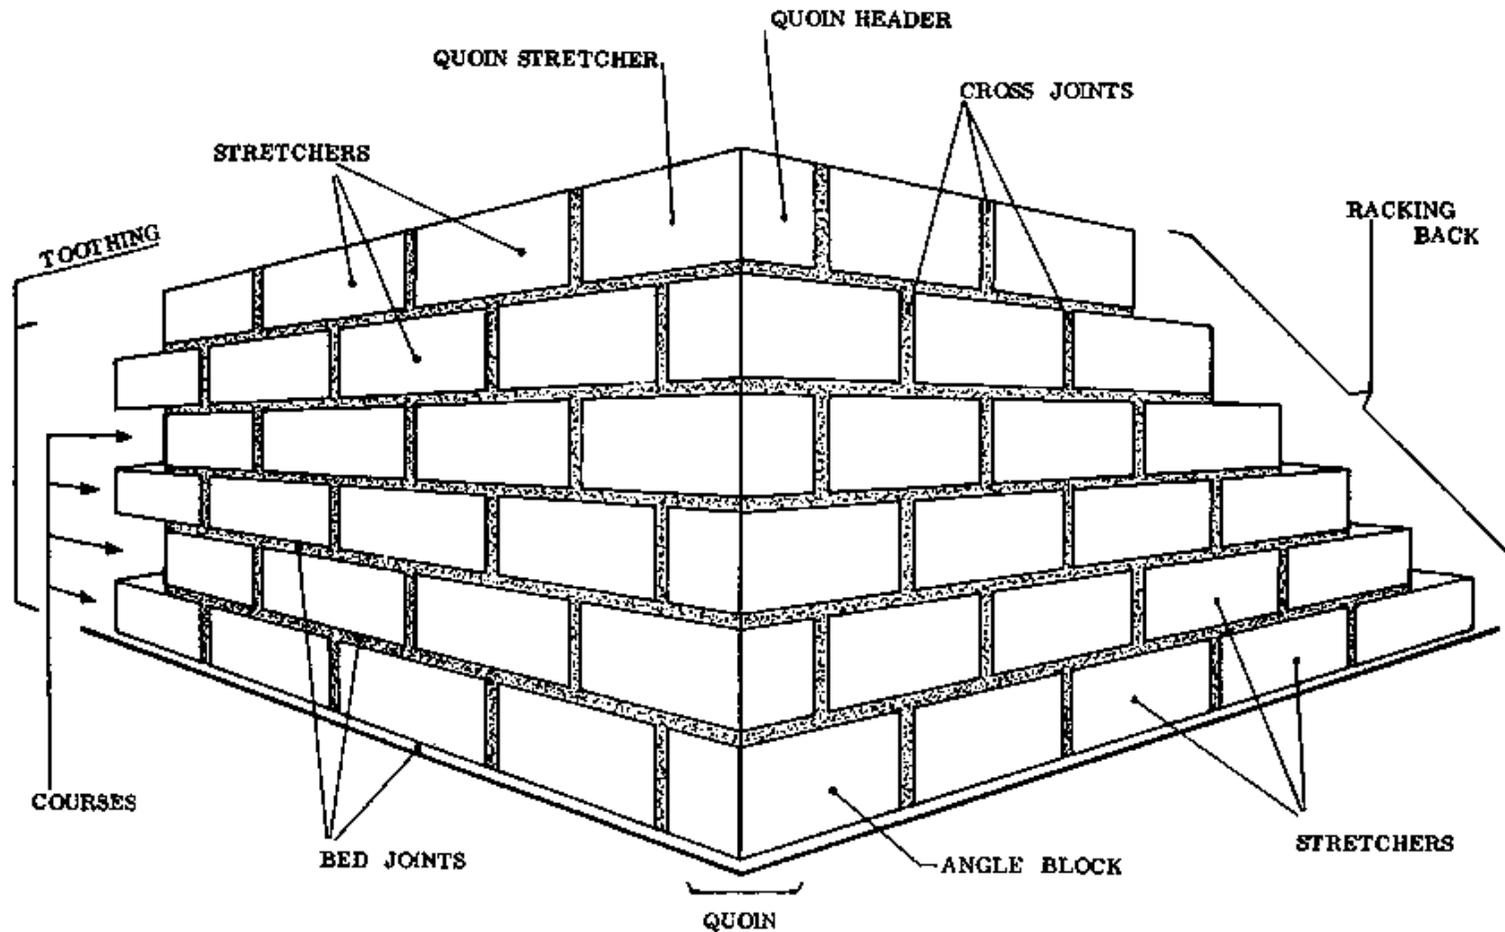

Fig. 1
- **HEADER:** A block is known as a header when it is placed in a wall so that its smallest face is exposed (Fig. 1, next page).
- **STRETCHER:** If the biggest face of a block is exposed, the block is called a stretcher (Fig. 1, next page). This is the way most blocks are laid in Rural Building, and we say that the block is laid edgewise. If a block is laid flatwise, so it is actually showing the top face, it is also called a stretcher (Fig. 1, next page).
- **COURSE:** This is the term applied to each layer or row of blocks, with the bed joint included (Fig. 1, next page).
- **BED JOINT:** This is the horizontal mortar joint between two courses (Fig. 1).
- **CROSS JOINT:** The vertical joints between the blocks (Fig. 1).
- **QUOIN:** The quoin is the outside corner of a wall or the external angle on the face side of the wall (Fig. 1).
- **ANGLE BLOCK:** This is the block which actually forms the corner in each course (Fig. 1).